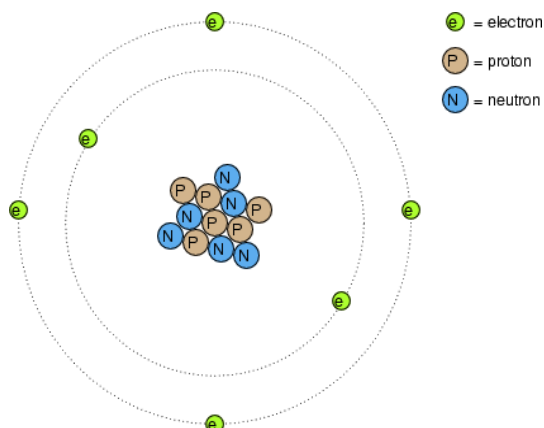

Figure 1.3 Atom orbit
- Electrons are found orbiting the nucleus of an atom at specific intervals, based upon their energy levels as in Figure 1.3.